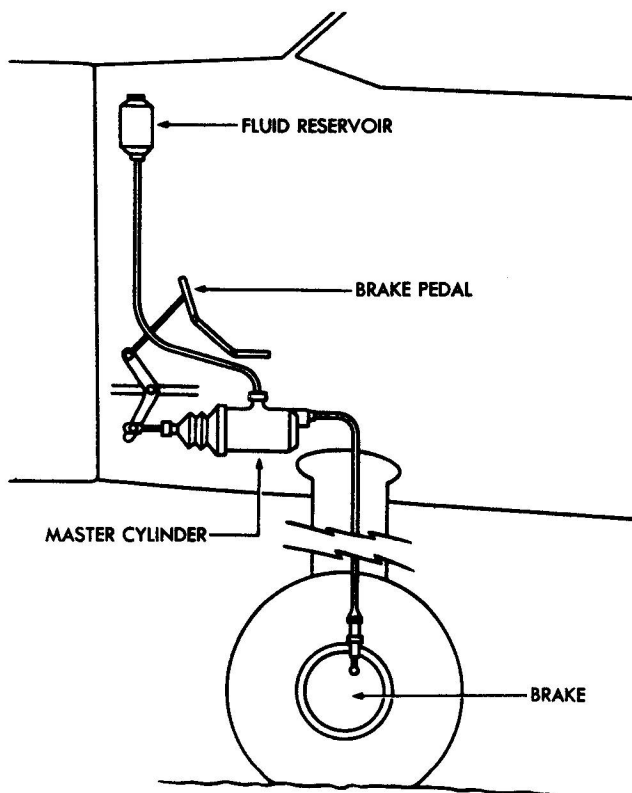

Figure 5—Diagram of Hydraulic System
*a.* A plain gravity type supply tank of approximately one-pint capacity should be used in conjunction with Goodyear master cylinders. This tank must be mounted so that it is the highest point in the brake system. (See figure 5.) The supply tank must be air vented in order to permit gravity to keep the system full at all times.